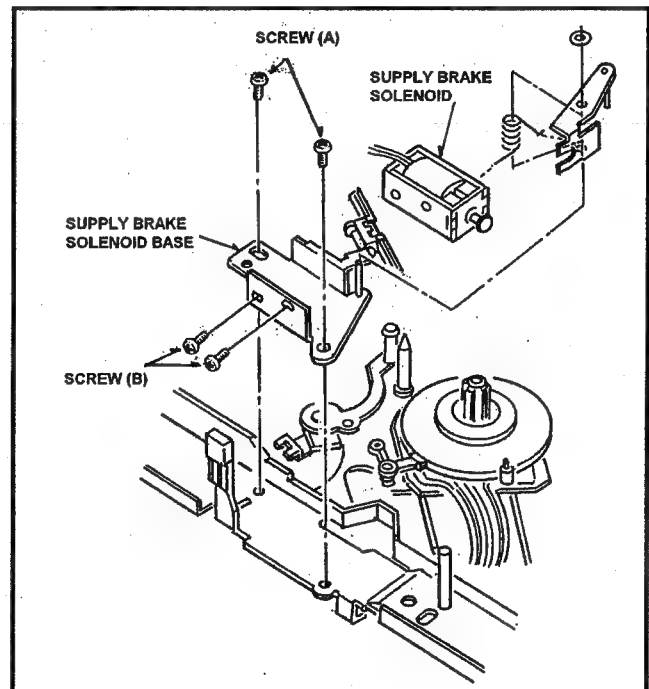
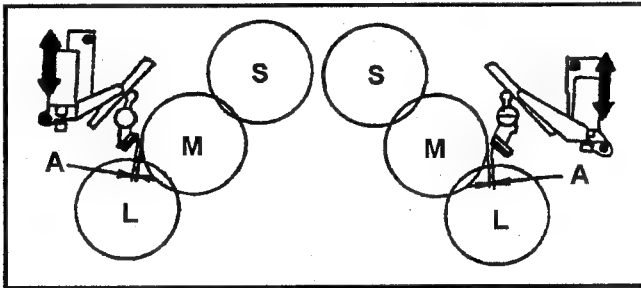
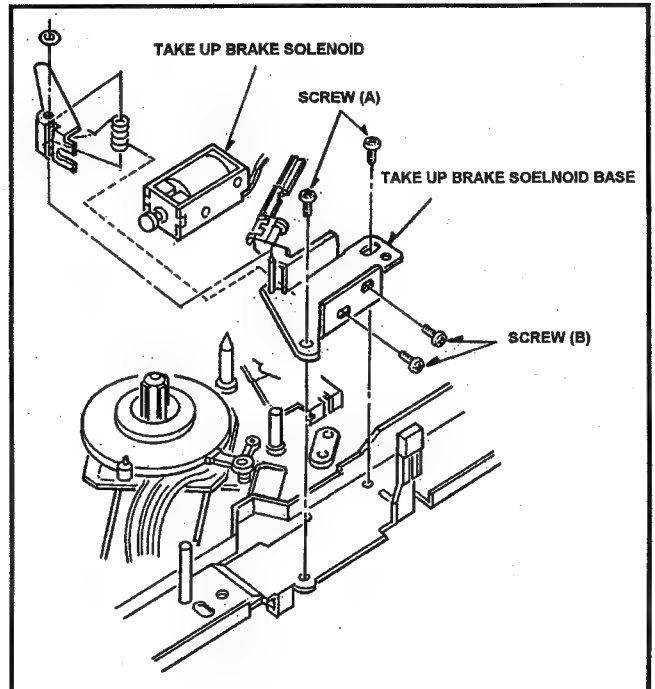

Fig. 6-9-1 Removal of Supply Brake Solenoid
Fig. 6-9-2 Brake Solenoid Adjustment
Fig. 6-10-1 Removal of Take Up Brake Solenoid
5. Unscrew the 2 screws (A) and remove the Supply Brake Solenoid Base Unit as shown in Fig. 6-9-1.
6. Unscrew the 2 screws (B) and remove the Supply Brake Solenoid from the Supply Brake Solenoid Base Unit as shown in Fig. 6-9-1.
2. Observe the clearance (A) between the Brake pad and it's turntable shown in Fig. 6-9-2 and make sure that it is within 0.2 to 0.5mm.
3. If not, loosen the 2 screws (A) shown in Fig. 6-9-1 and move the Brake Solenoid Unit to the arrow direction so that the clearance (A) is within specification as shown in Fig. 6-9-2. Then tighten the 2 screws (A).
4. After adjustment, change the reel position to S and L cassette size, and confirm that the clearance (A) is within specification.
5. Unscrew the 2 screws (A) and remove the Take Up Brake Solenoid Base Unit as shown in Fig. 6-10-1.
6. Unscrew the 2 screws (B) and remove the Take Up Brake Solenoid from the Take Up Brake Solenoid Base Unit as shown in Fig. 6-10-1.
2. Observe the clearance (A) between Brake pad and it's turntable shown in Fig. 6-9-2 and make sure that it is within 0.2 to 0.5mm.
3. If not, loosen the 2 screws (A) shown in Fig. 6-10-1 and move the Brake Solenoid Unit to the arrow direction so that the clearance (A) is within specification as shown in Fig. 6-9-2. Then tighten the 2 screws (A).